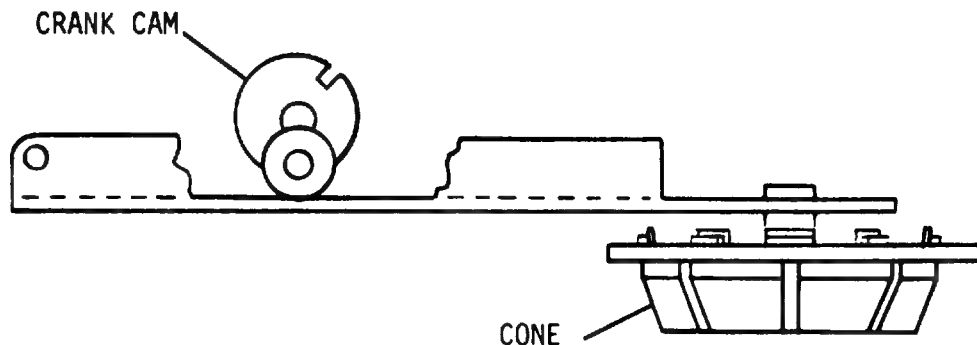

Figure 2-10B. Eject Motor Cam Alignment Check-Carrier Closed
- c. Observe the crank cam moves to a bottom dead center position relative to the carrier plane, i.e., maximum penetration of cone assembly into hub. (See Figure 2-10B.)